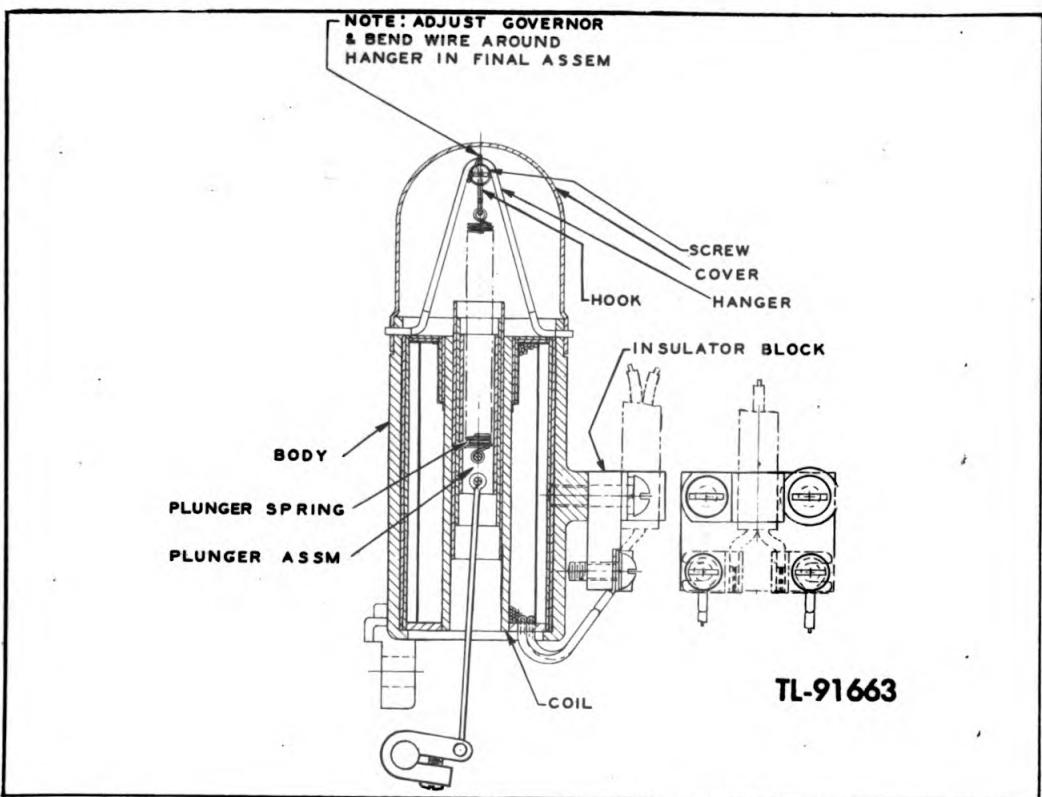

Fig. 14—Electric Governor Assembly
**k. Electric governor.** (1) No adjustments should be necessary to the governor (fig. 14) unless the plunger return spring (535) is replaced, as it is correctly set for the requirements of the unit at the factory. Replace the rectifier (541) as a unit if it is damaged or becomes inoperative.
(2) To install a new governor spring, proceed as follows: